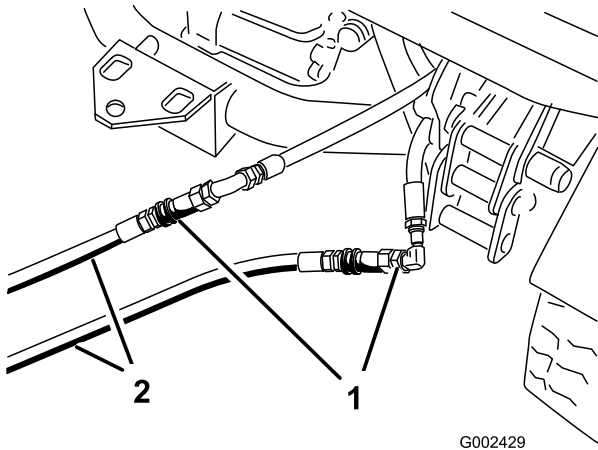

Figure 80
3. On the disabled vehicle, connect the two jumper hoses to the hoses that were disconnected (Figure 80). Cap the unused fittings.